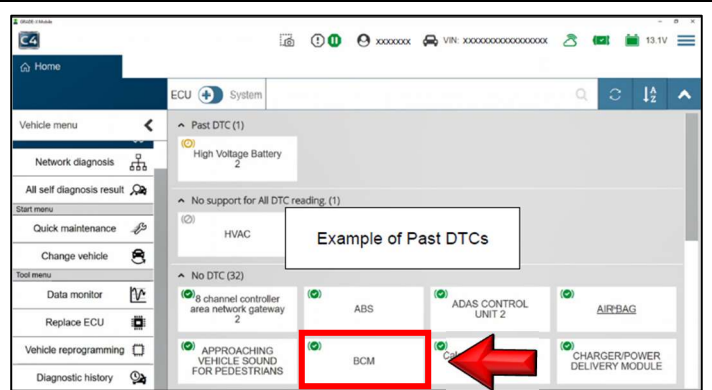

Figure 19
19. Locate and Select **BCM**. (Figure 19)